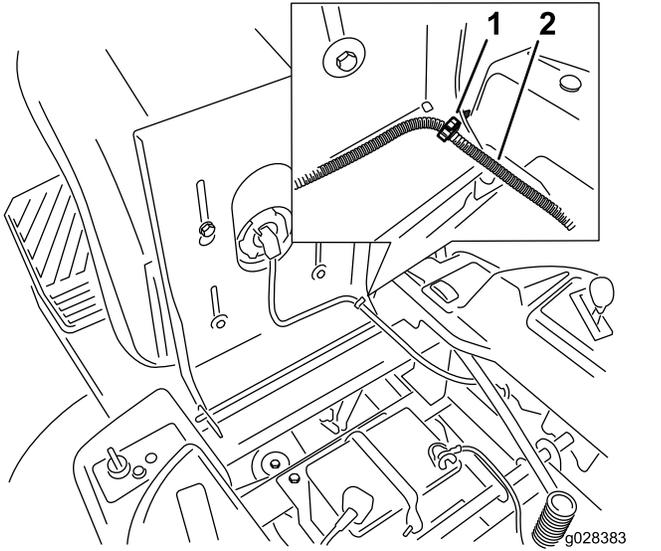

Figure 8
3. Route the wire harness to the right side of the machine and push the plastic connector into the seat frame hole (Figure 8).